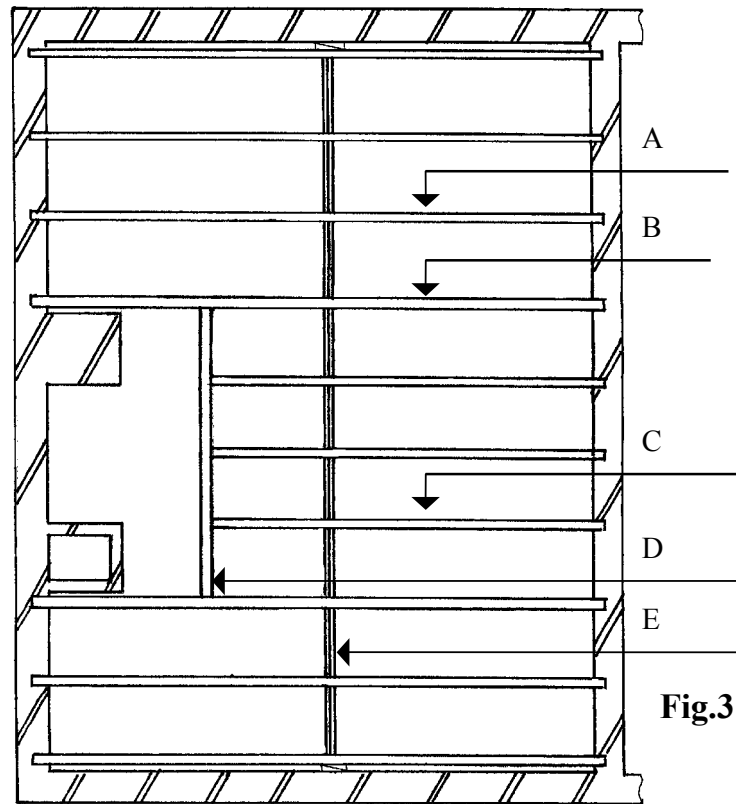

Fig.3
6. (a) Fig.3 represents the plan of the joist layout for a timber upper floor. Name the FIVE components indicated.